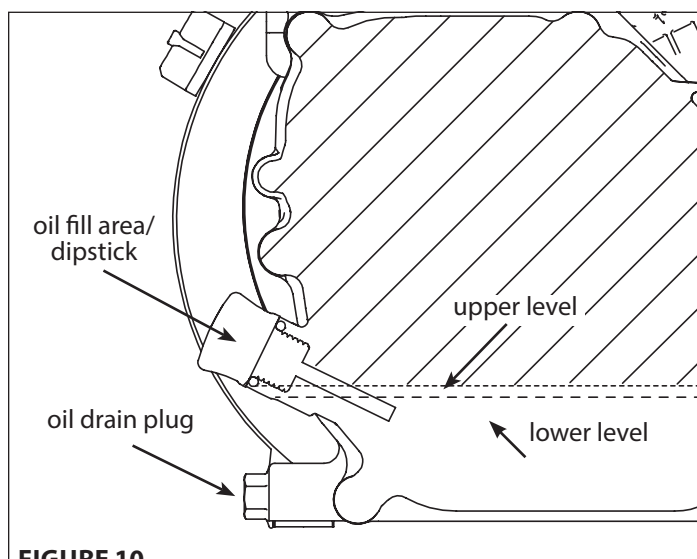

FIGURE 10
2. Remove oil drain plug and empty oil into suitable oil container. Dispose of oil properly. **SEE FIGURE 10**
3. Reinstall drain plug. Remove dipstick (if applicable) or oil fill cap. **SEE FIGURE 10**
4. Fill with appropriate oil to **FULL** or top line of dipstick; otherwise to top thread of oil fill hole. **SEE FIGURE 10**